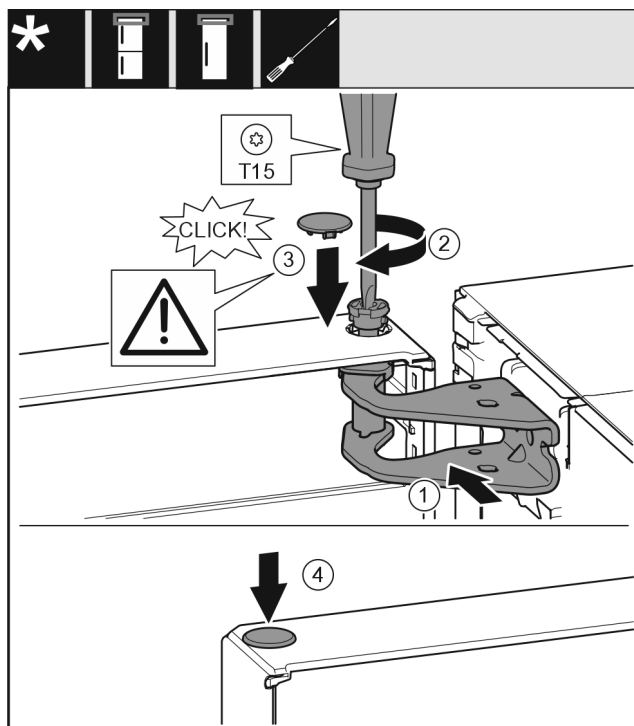

Fig. 22
- ▶ Align the top door with the opening in the swap bearing block *Fig. 22 (1)*.
- ▶ Insert the bolt *Fig. 22 (2)* and use screwdriver to tighten it.
- ▶ Insert the cover *Fig. 22 (3)*.
- ▶ Check that the cover *Fig. 22 (3)* is resting on the door.
- ▶ Insert the cover *Fig. 22 (4)*.